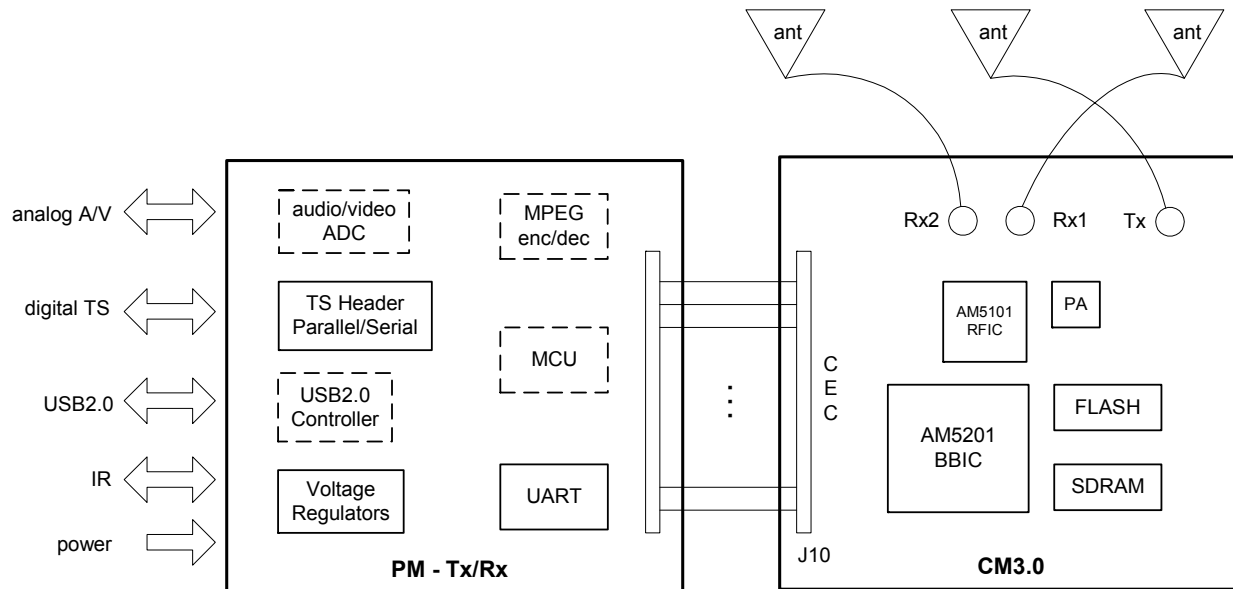

Figure 2: System Diagram of CM3.0 and Personality Module
Figure 2 gives a functional block diagram of the CM3.0 and associated personality module (PM). The personality module intends to simulate the host product platform in which the CM3.0 will be integrated. The PM supports demo and evaluation of the CM3.0 with a variety of video sources (analog and digital) for different applications. It also provides capabilities for test and debugging of the core module.